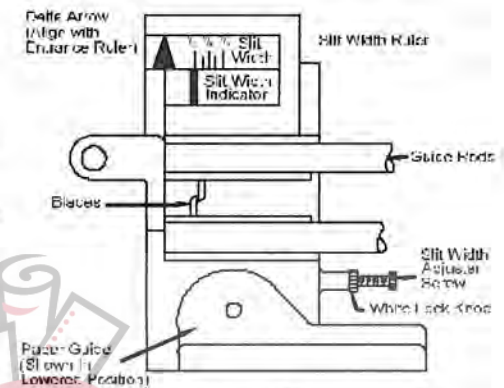

Figure 9
Remove form, locate slit width adjuster screws, and lock knobs. See Figure 9. Loosen white lock knobs by holding adjuster screw and turning lock knob counter-clockwise. Adjust slit width by rotating adjuster screw. The indicator at the front of the housing will show what width margin is being removed. After adjusting for proper slit width with adjuster screw, lock with white lock knob. Replace top safety cover. Turn machine on. Push the lead edge of form into machine. The form will be pulled in as the rollers grab the lead edge. After a few forms have been burst, switch machine OFF.
5. Bursting Only: Rotate paper guides to the "up" (12:00) position to block paper from entering slitter housings. Align paper guide edge to proper width on entrance ruler. Keep forms centered. It will not be necessary to fine adjust as in slitting due to the automatic alignment features designed into your unit. Simply avoid crowding the form. See Figure 9.